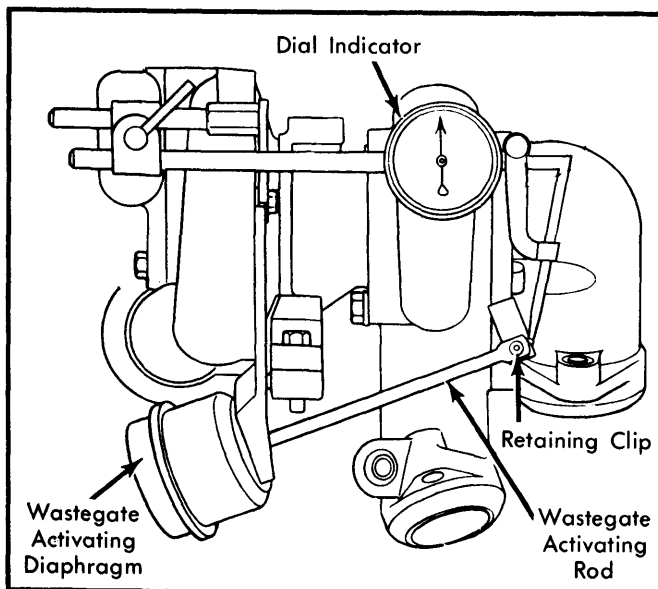

Fig. 3 Checking Wastegate Activating Rod Travel
- 4) Install a dial indicator to measure travel of wastegate activating rod. Apply pressure VERY SLOWLY until dial indicator shows .015" movement. Pressure gauge should read $6.8 \pm .5$ psi. If wastegate arm does not meet specification or move freely, replace wastegate activating diaphragm. See Fig. 3.